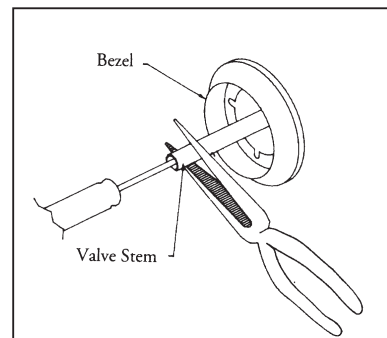

FIG.09 Low Setting Adjustment
4. While holding the valve shaft with pliers, insert a thin, flat tipped screwdriver into the shaft and while viewing the burner adjust to a minimum stable flame (Fig. 09).